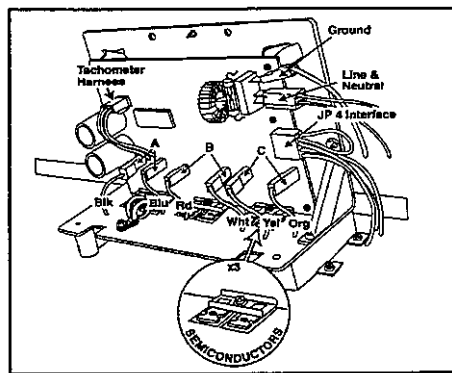

Figure 2-6
Refer to section titled Motor Control for board identification of A, B and C terminal/harness identification (*Figure 2-6*). Also, see the wiring schematic for harness identification.
1. Disconnect power to the machine & connect a power test cord to the Line & Neutral terminals of the Motor Control board. (*Figure 2-6*).
- A. Check the 10 amp fuse located on the control board, either visually or with an ohm meter. If bad, replace motor control/wire harness assembly completely (*Figure 2-6*).
- B. If the fuse is functioning, check the six semiconductors on the heat sink visually for any damage. If damaged, replace motor control/wire harness assembly complete and check motor windings for damage (*See DRIVE MOTOR*). Replace motor if necessary (*Figure 2-6*).
To gain access to the Motor Control Board terminals: (*Figure 2-6*)
6. Connect the power test cord to the Ground wire, Line 1 and Neutral wires. (Leave the JP4 connector off the board.) *(Figure 2-6)*
2. **Disconnect power to the machine** & connect a power test cord to the Line & Neutral terminals of the Motor Control board (*Figure 2-6*).